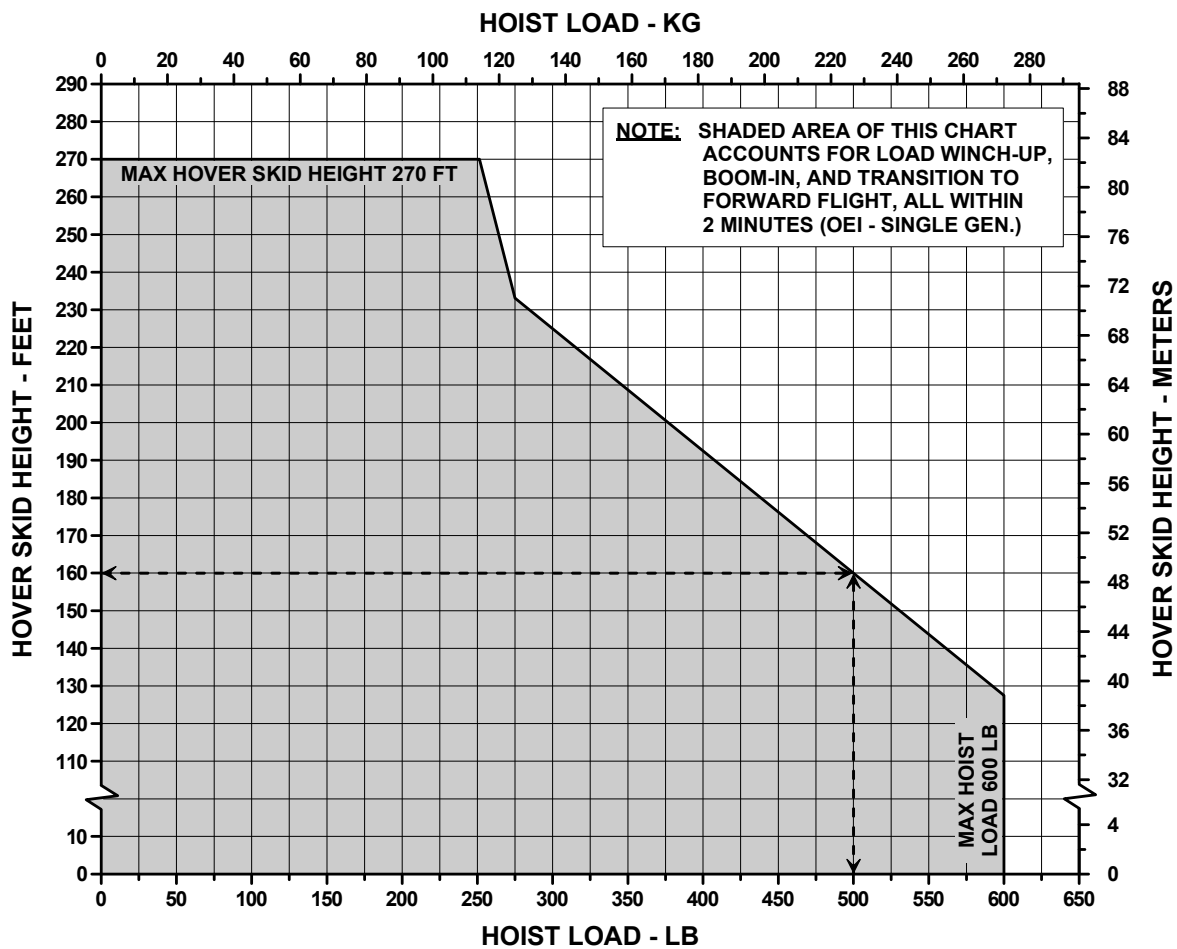

Figure 4-13. Hoist Load/Hover Skid Height Envelope for Operations Requiring Category A Performance
Performance chart (Figure 4-13). Pilot must determine hover skid height based on hoist load weight. Hoist load weight and hover skid height determined from Figure 4-13 take into account the time to winch up, bring the boom in, and transition to forward flight, all within 2 minutes using a single generator (assuming OEI operation).
- c. To determine maximum hover skid height, use Hoist Load/ Hover Skid Height Envelope for Operations Requiring Category A Performance chart (Figure 4-13): Enter chart from bottom at Hoist Load, proceed vertically to limit line. Move left horizontally to Hover Skid Height axis and read 160 feet.